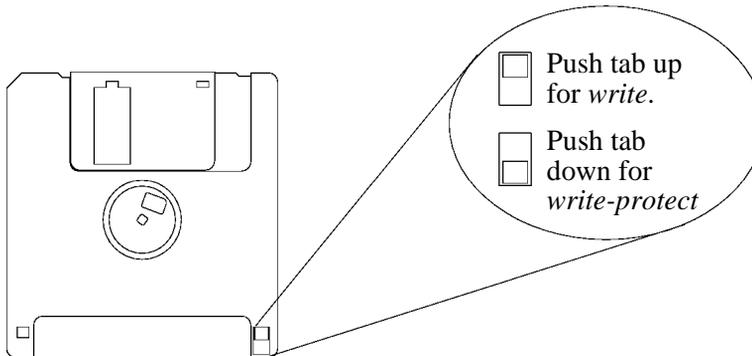

Figure 7-9
You can only store or change information on a diskette when the write-protect tab is in the write position. So, before trying to write to the diskette, make sure that the write-protect tab is in the write position, as shown in Figure 7-9.
To protect files on a diskette from being overwritten, set the write-protect tab to the write-protect position, as shown in Figure 7-9.
- 2 Make sure that the write-protect tab on the floppy diskette is in the write position, as shown in Figure 7-9.